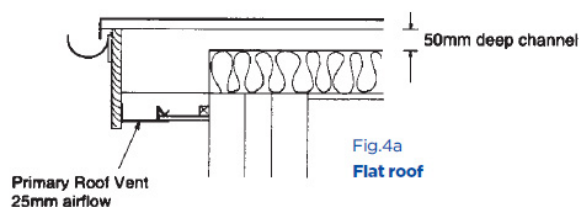

Fig.4a
- With a flat roof a free airflow is required which is equivalent to a continuous 25mm opening (25,000 mm² per metre). See Figs. 4a, 4b and 4c